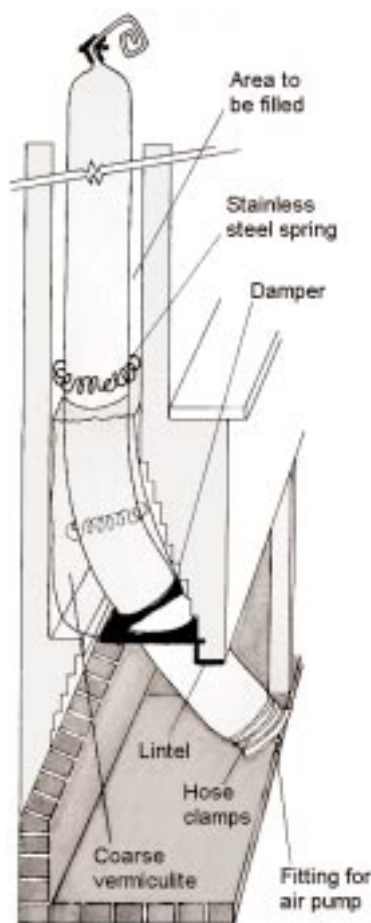

FIGURE 5
■ Use a patented process, which is only available through franchised dealers, to line the chimney with a cementitious mix. A vinyl or rubber hose can be inserted and inflated (Fig. 5). Lightweight concrete is then poured around the hose, which is deflated and removed after the concrete sets.